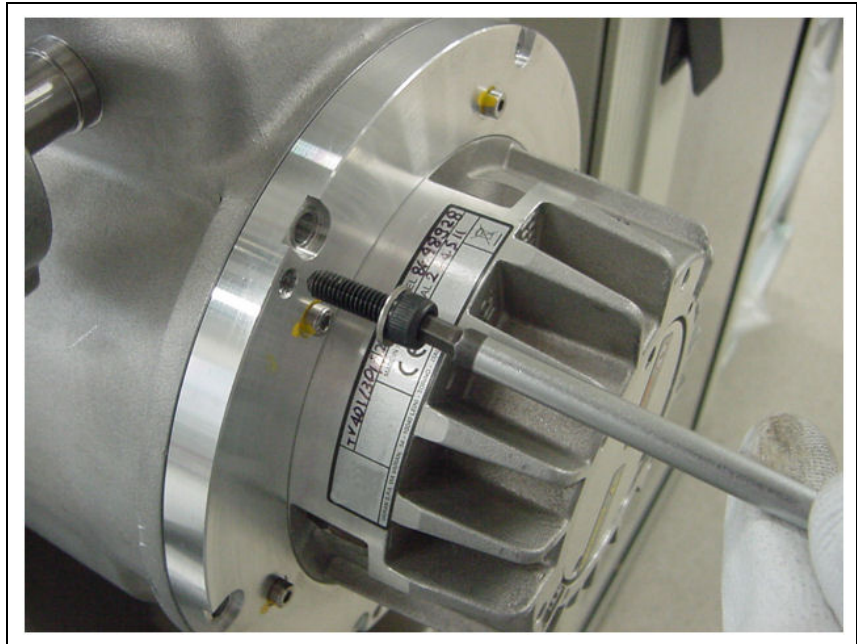

Figure 39
- 3 Engage 3 sphere-screws into the M6 threaded holes present on the pump flange (blue rhombs in Fig 2, see Fig. 39).